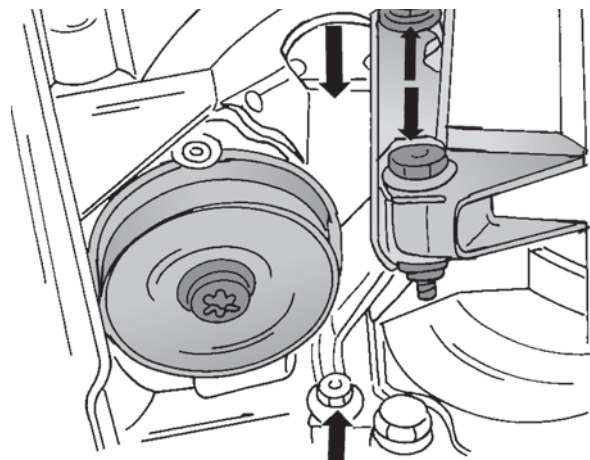

Fig. 1.11. – The arrows show where the transmission mountings are attached.
- Refer to Fig. 1.11 and remove the four bolts shown by the arrows. This will free the transmission from the transmission mounting. Note that some vehicles are fitted with a pendulum mounting bracket which must be removed. If this is the case refer to Section “Manual Transmission”.